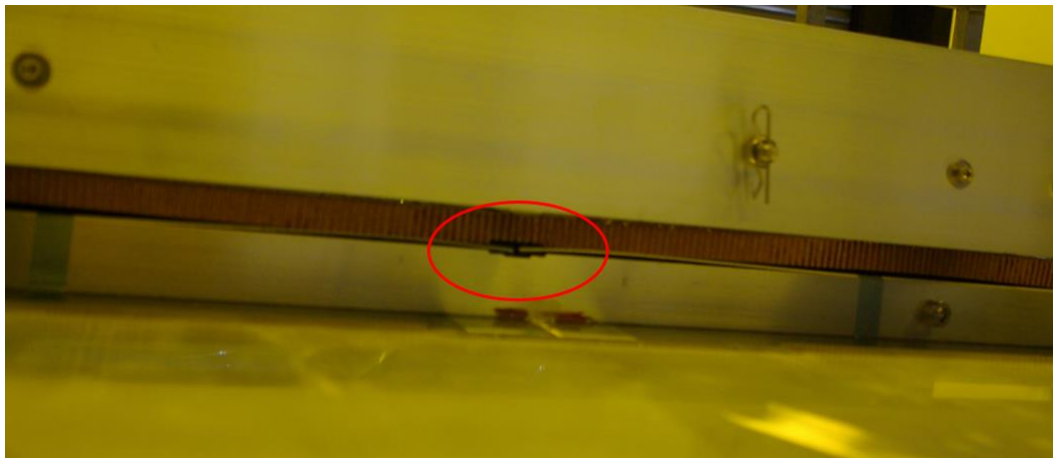

Figure 47 Alignment of the Panel wrt. the endpieces mirror side
5.1.4.11 Take the honey comp panel “HE_LHCB_SCIFI_PAN_908410_A_0_LHCB-SciFi-Verbundplatte-LI” with the “Lifting and Turning device” by using vacuum with the vacuum pump “Leybold DIVAC 2.2 L” and place it on the top of the gluing jig with rough positioning by taking for reference the cut out in the middle for the endpieces mirror side (Figure 47).